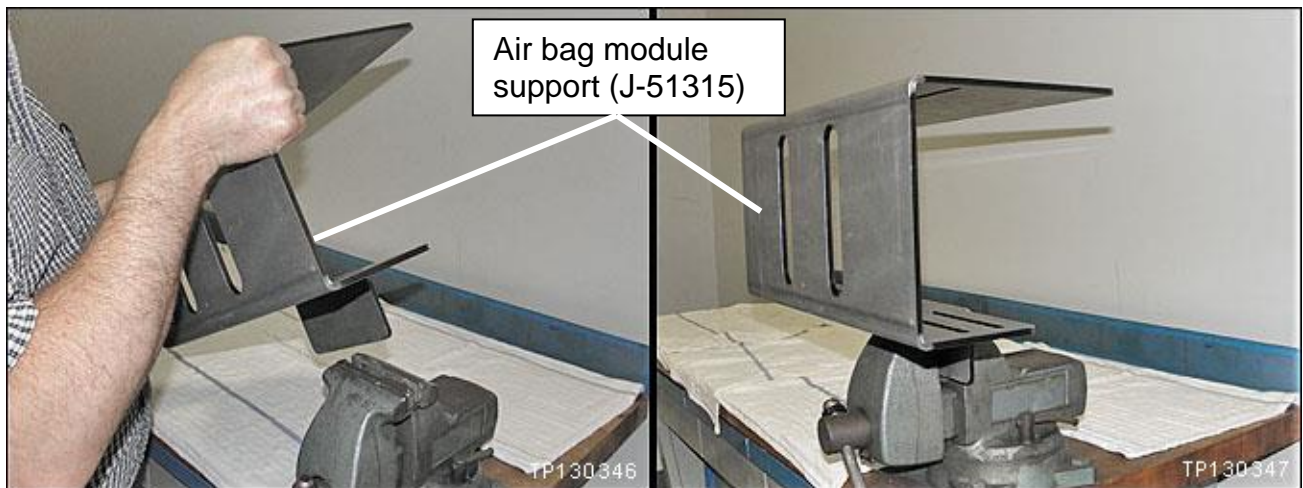

Figure 1
7. Securely mount the air bag module support (support) in a vice (see Figure 1).